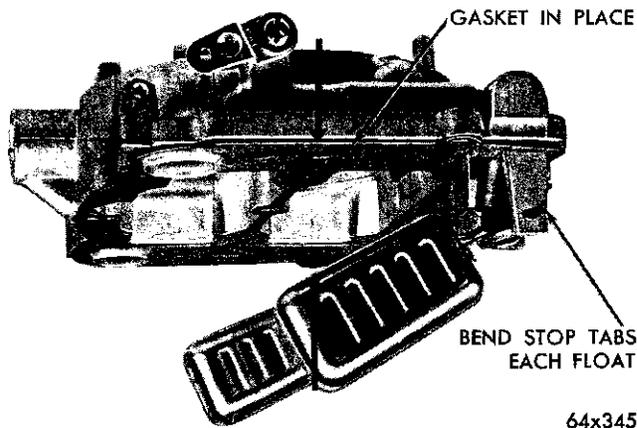

Fig. 17—Measuring the Float Drop
(1) Holding the air horn in an upright position, measure the distance from the top of floats (outer end) and the air horn gasket, as shown in Figure 17. This measurement should be  $\frac{1}{2}$  inch. If an adjustment is necessary, bend the stop tabs on the float levers until correct drop setting has been obtained. Bend the tab toward the needle seat to decrease the drop, or away from the float to increase the drop.